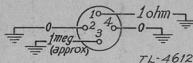

FIGURE 24.—Pin-to-ground resistances, generator cable plug. (REC-TRANS switch in TRANS position.)
f. Generator cable plug-to-ground resistances.—See figure 24.